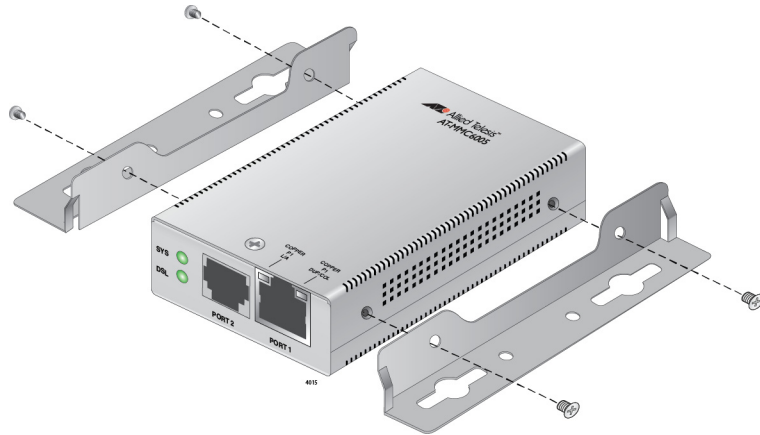

Figure 10. Attaching the Brackets to Install the Media Converter on a Wall
3. Orient the brackets (separately-purchased) against the sides of the unit, as shown in Figure 10, and secure them to the unit with the four brackets screws included with the brackets.
3. Orient the brackets (separately-purchased) against the sides of the unit, as shown in Figure 10 on page 37, and secure them to the unit with the four brackets screws included with the brackets.